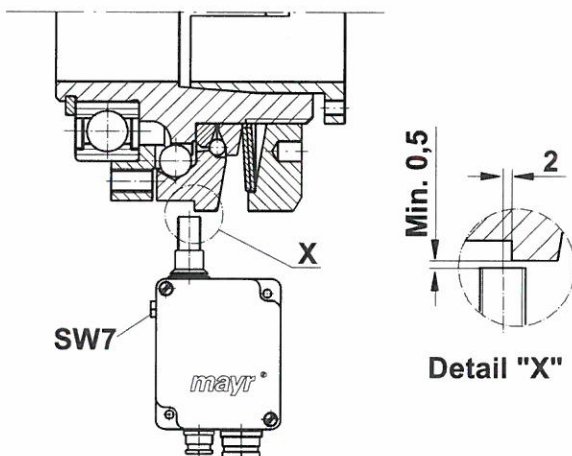

Fig. 11
The contactless limit switch must be mounted onto the clutch switching edge (Fig. 11) so that, in normal operation, no limit switch signal change is caused by the usual run-out discrepancies.
- Adjust the switch distances for the contactless limit switch according to Fig. 11.